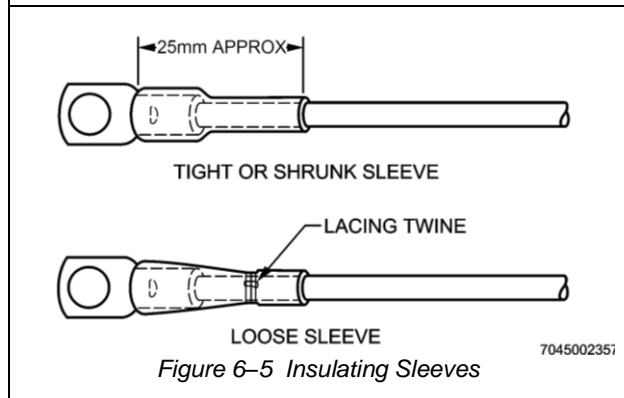

Figure 6-5 Insulating Sleeves
16. Uninsulated straight flag terminal lugs are insulated (after assembly to wire) with heat shrinkable tubing (see Section 2, Chapter 4) or with lengths of transparent tubing. These methods of insulation provide electrical and mechanical protection at the connection. When the size of sleeving used is such that it will fit tightly over the terminal lug, the sleeving need not be tied; otherwise, it is to be tied with lacing cord. (See Figure 6-5.)